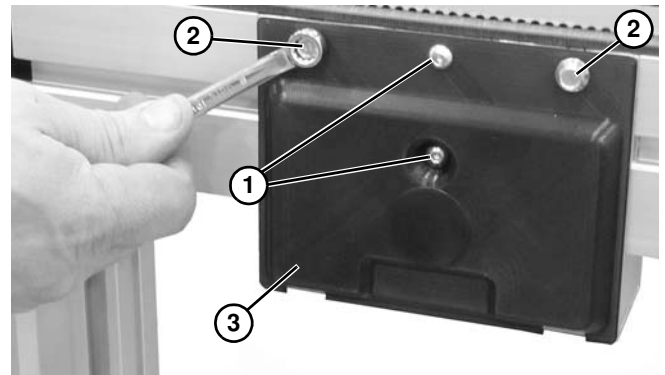

Figure 32
2. Remove button head screws (**Figure 32, item 1**).
3. Remove hex flange screws (**Figure 32, item 2**) and mid drive cover (**Figure 32, item 3**). Replace hex flange screws (**Figure 32, item 2**), but do not tighten.